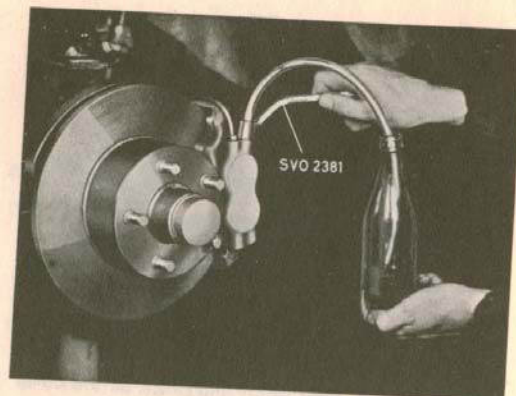

Fig. 7-28. Air-venting (early prod.)
2. Clean the air-venting nipple. Fit on the wrench SVO 2381 with a hose on the air-venting nipple and let the other end of the hose hang down in the fluid in a collecting vessel, see Fig. 7-28.